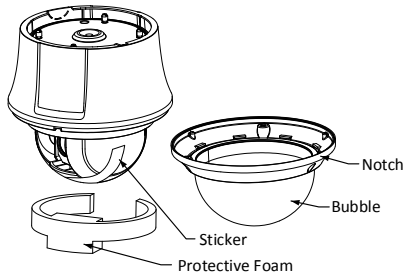

Figure 1-53 Disassemble the Speed Dome
3. Remove the protective lens cover, foam and sticker from the dome drive as shown in Figure 1-53.